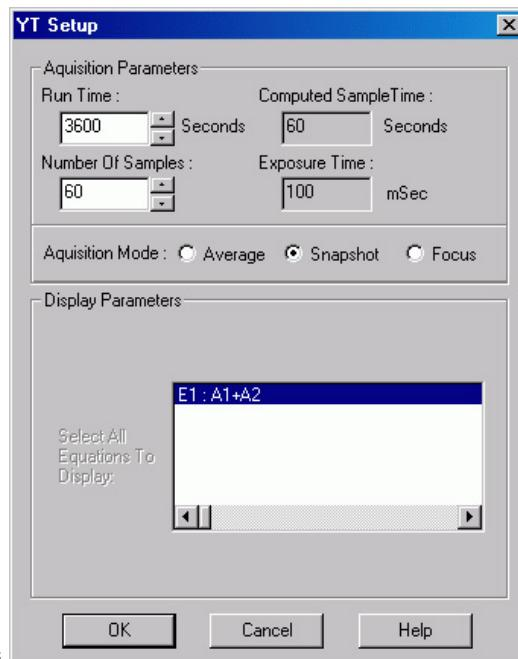

Figure 131. Y:T Setup dialog box
8. Click on **Y:T Setup** to open the **Y:T Setup** dialog box (Figure 131).